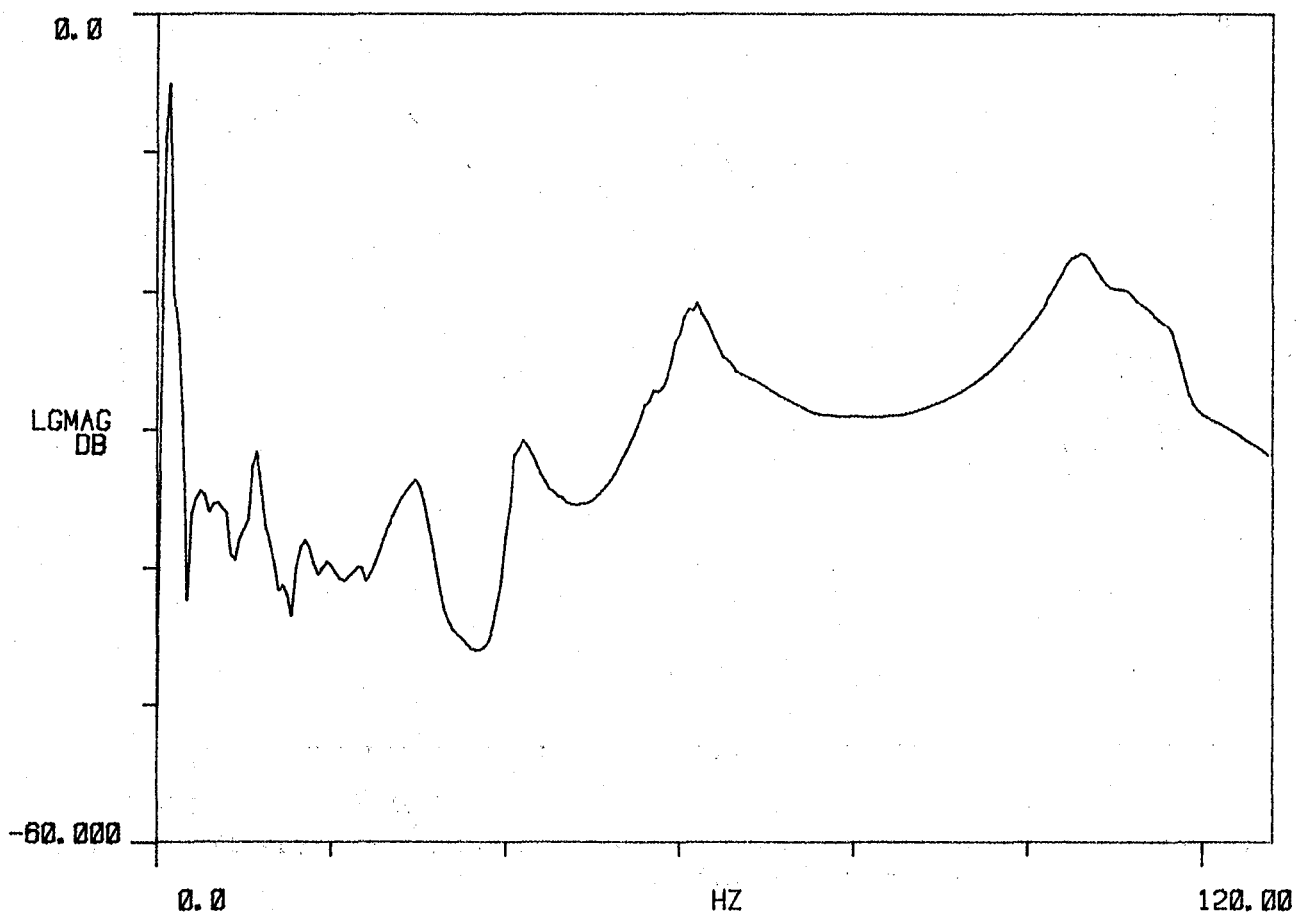

Figure 13.- Frequency and damping table and transfer function for blade 21, retention shaft partially secured.
5. The retention shaft dynamics of blades 23 and 21 (FM 4) were comparable (in response to shaking). This can be seen by comparing the transfer functions of figures 13 and 14 obtained with the shafts somewhat secured and then comparing these functions with the transfer functions on figures 15 and 16 where the retention shafts were not secured.